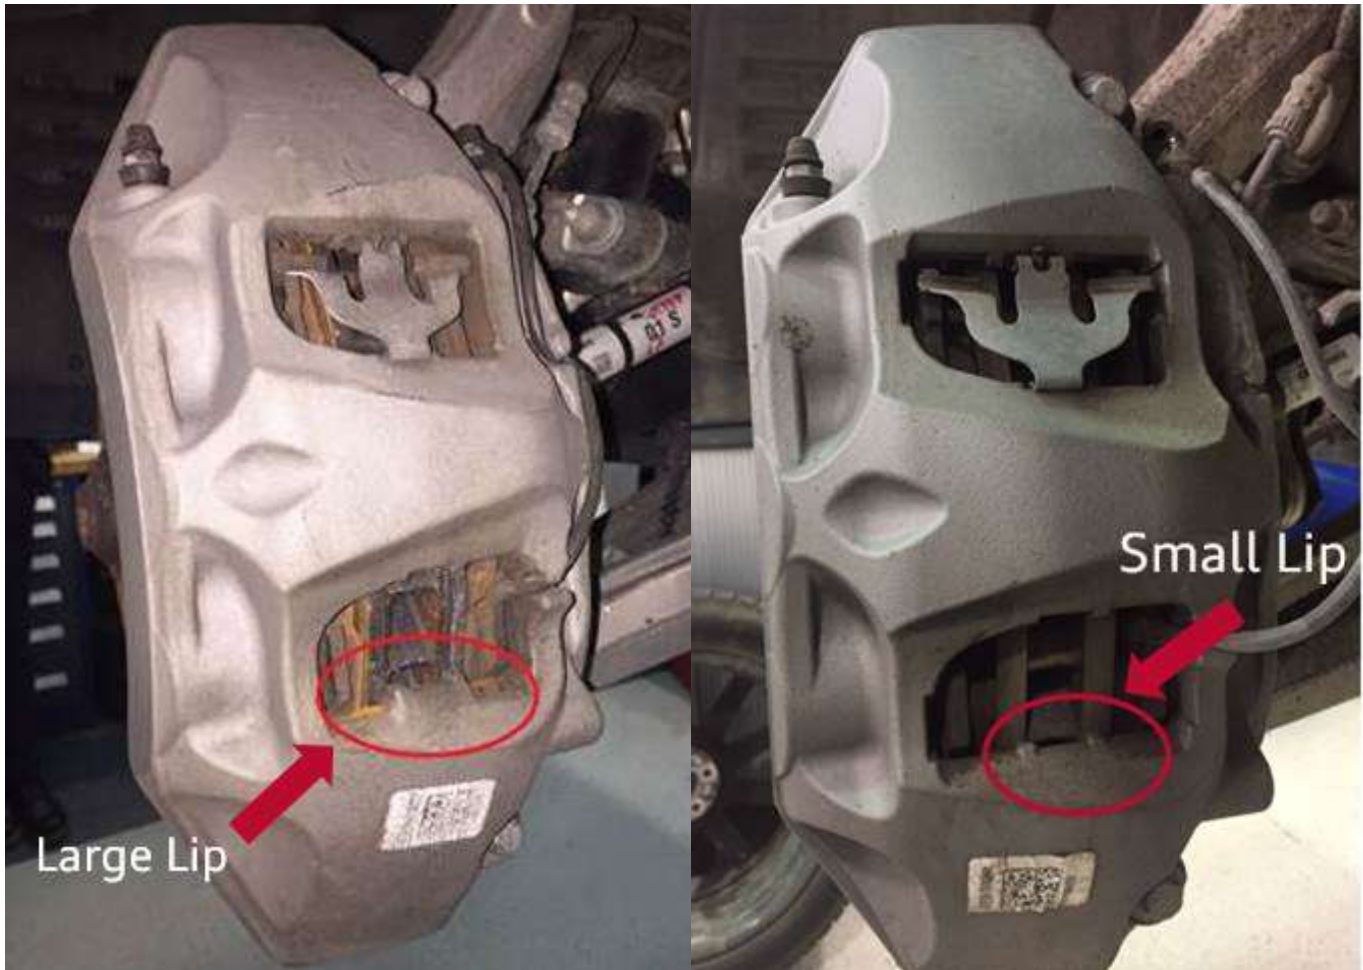

Figure 1. Caliper casting lip configurations.
1. Identify the caliper casting lip of the installed caliper in the vehicle. There are two possibilities for the lip; large and small (Figure 1).